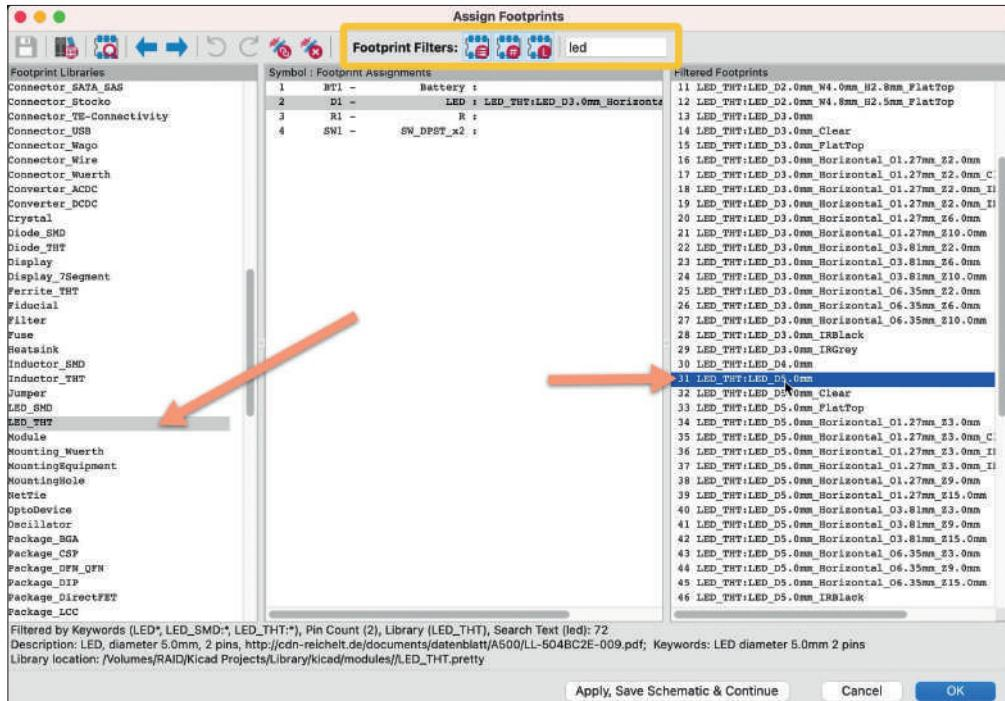

Figure 3.7.10: Making an association.
(3), you will see a listing of all footprints in the selected library and match my filter settings (Figure 3.7.10).